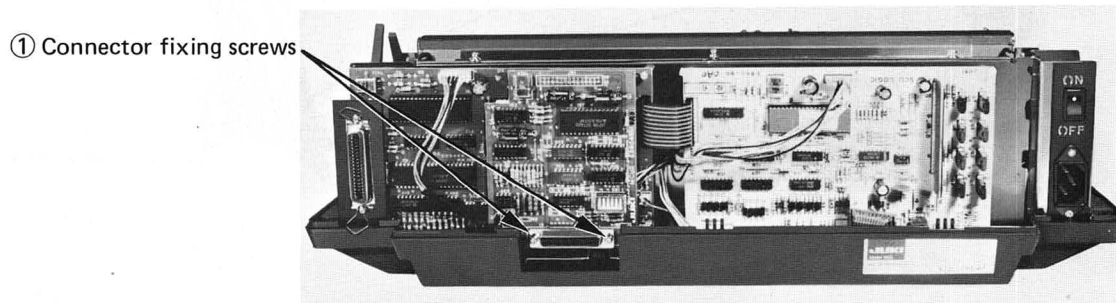

Fig. 5.30
- Step 2. Remove two connector fixing screws ① to release the connector cover. (Fig. 5.30)